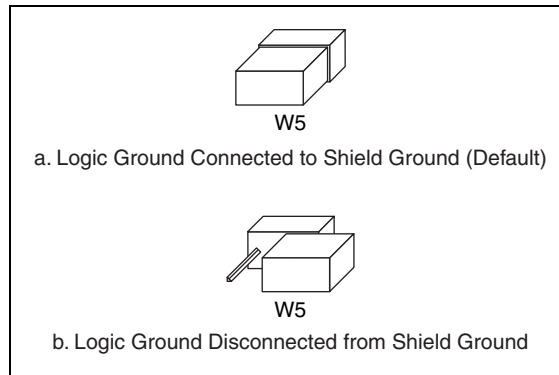

Figure 9. PC/104-GPIB Ground Configuration Jumper Settings
2. Remove the jumper and place it across only one of the jumper pins, as shown in Figure 9.